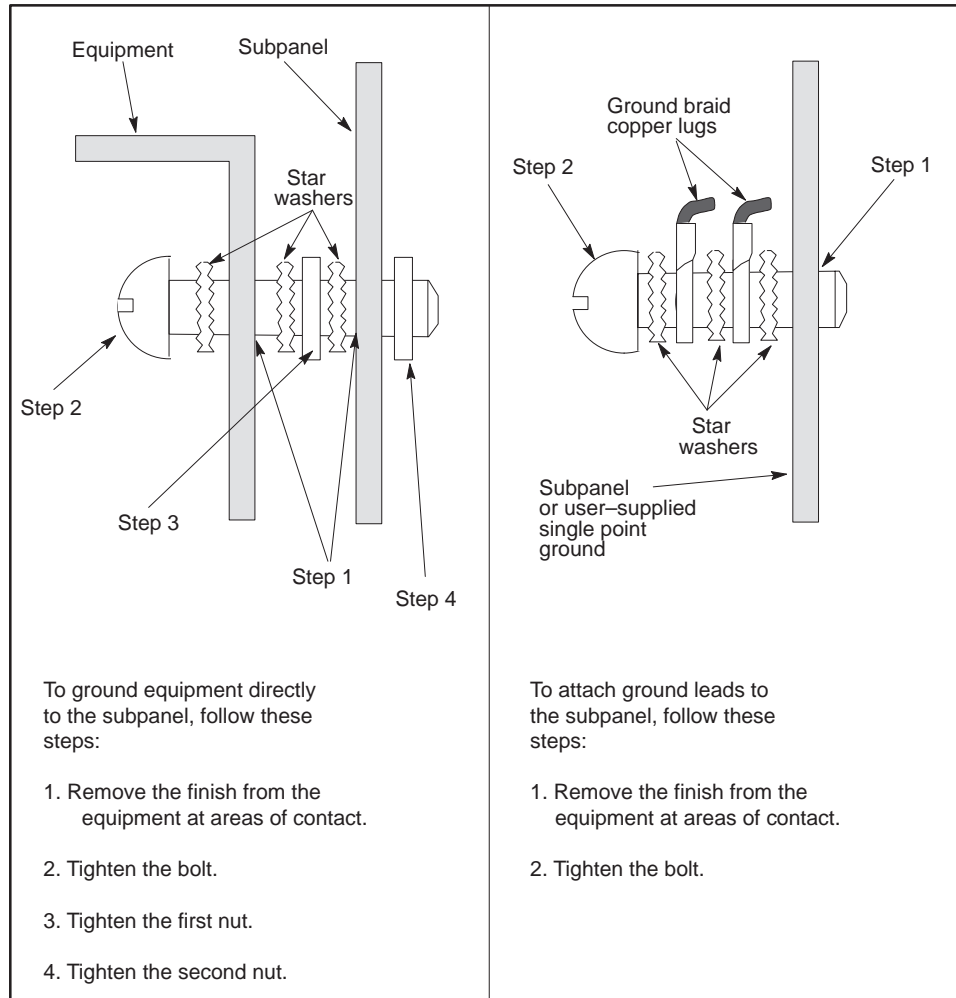

Figure B-1 Sample Ground Connections
- Paints, coatings, and corrosion can prevent good electrical contact at ground points. Remove these impediments in the area of contact and use external toothed lock washers (star washers) to ensure good continuity and low impedance. This practice should be used for all terminations — lug to subpanel, device to lug, device to subpanel, subpanel to conduit, etc. Examples of ground connections are shown in Figure B-1.